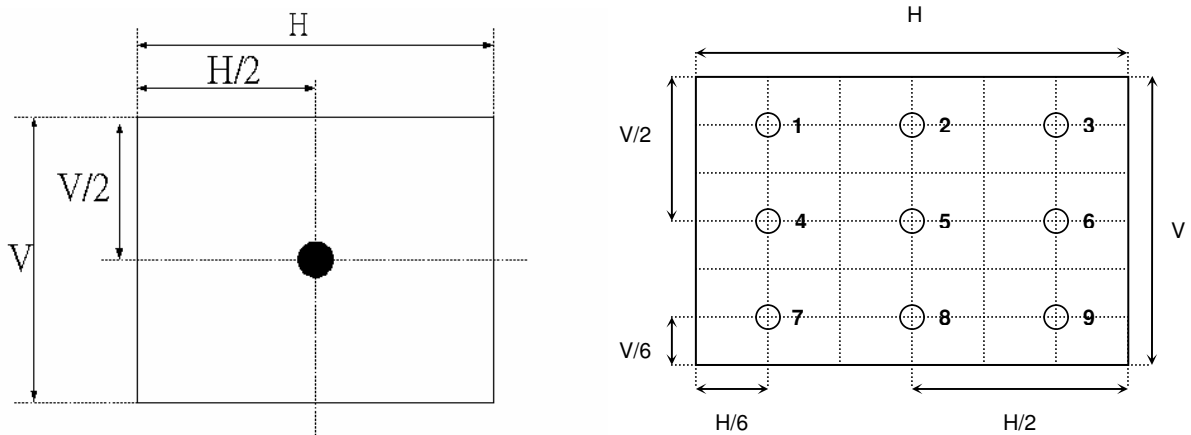

Fig.4-2 Optical measurement point
2. Surface luminance is luminance value at point 1 across the LCD surface 50cm from the surface with all pixels displaying white. From more information see Fig. 4-2. When $V_{DDB} = 24V$, $I_{DDB} = (7.3A)$. $L_{WH} = L_{on1}$, Where L_{on1} is the luminance with all pixels displaying white at center 1 location.